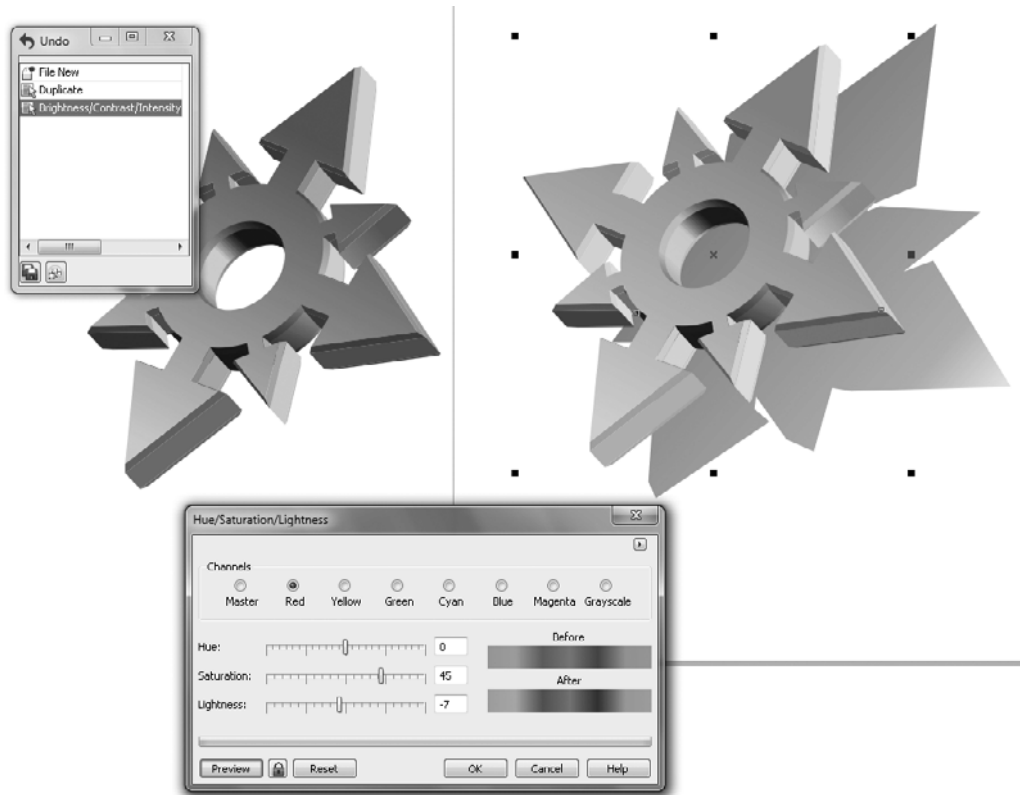

FIGURE 17-8 Change the colors of grouped objects selectively with the Effects | Adjust commands.
9. Drag the Lightness slider to -7 and then click Preview. Compare the graphic to its duplicate. For this example, let's consider the job well done—it's a much lighter, more lively graphic now, as you can sort of see in Figure 17-8. Click OK to apply the filter.